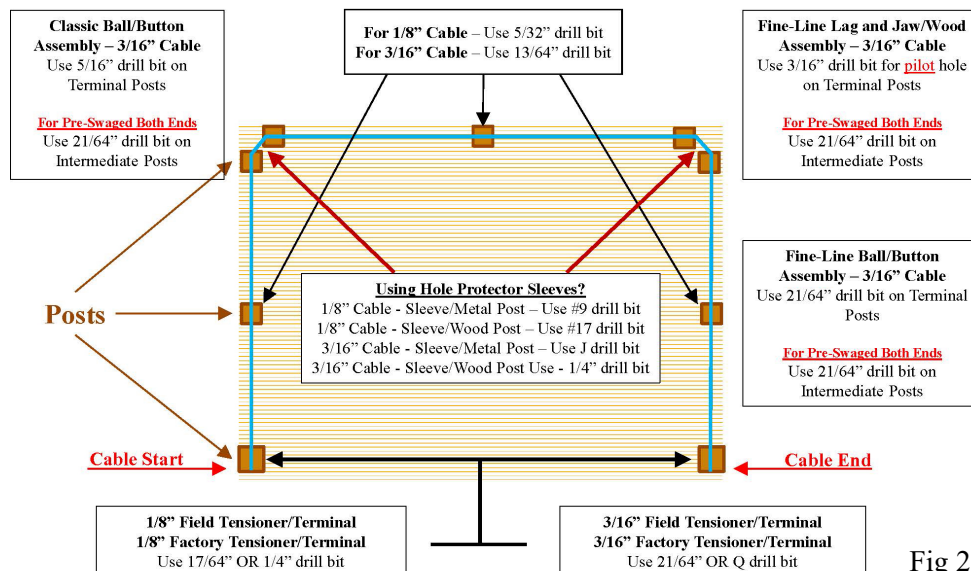

Fig 2
- Do you need to drill holes for the cables? (Fig 2).
NOTE: If using Hole Protector Sleeves, install these prior to lacing your cable through the intermediate posts. Reference (Fig. 2) for drill size recommendations.